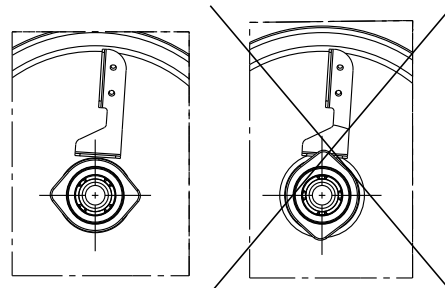

Fig. 23 Fitting the stationary shaft seal part (only SiC/SiC)
3. Press the stationary shaft seal part home. See fig. 23.